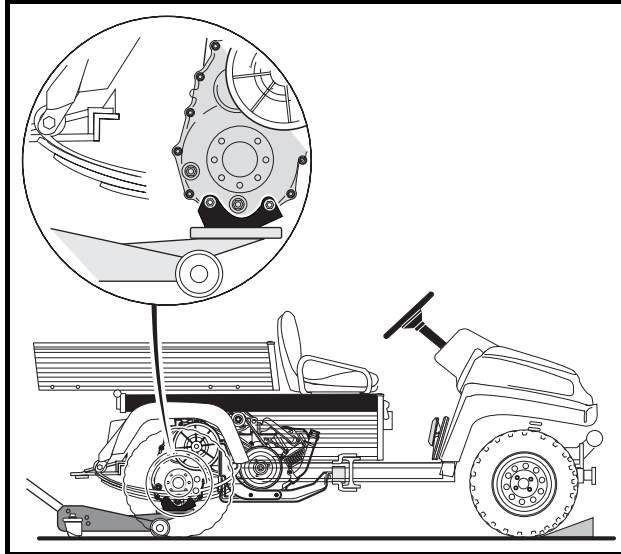

Figure 9-2 Correct Positioning of Floor Jack
3. Chock the front wheels and lift rear of vehicle with a chain hoist or floor jack. If using floor jack, place jack under transaxle as shown (**Figure 9-2, Page 9-3**). **See WARNING “Lift only one end...” in General Warning, Section 1, Page 1-2.**